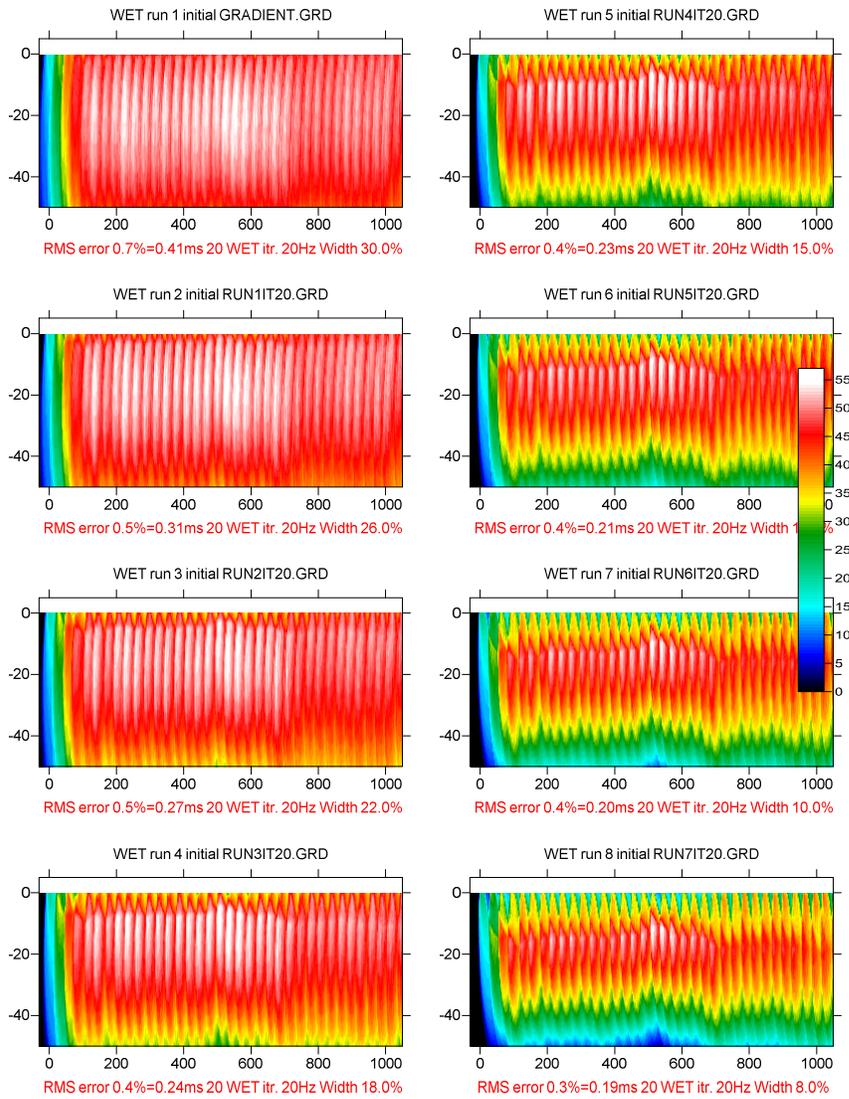
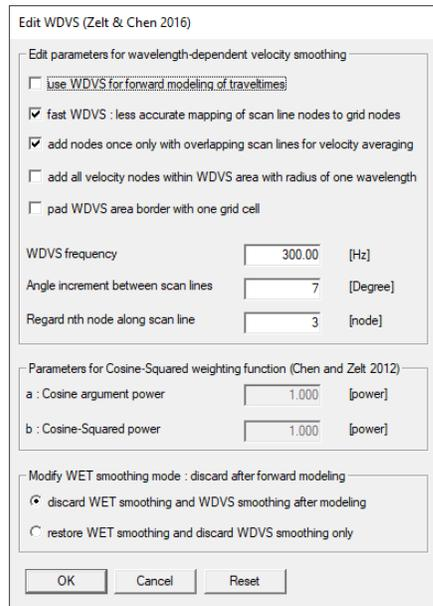

Fig. 2 : WET wavepath coverage plots obtained with Fig. 1. Unit is wavepaths per grid cell.
Fig. 14 (right) : *Model, Wdvs Smoothing*. Click radio button **discard WET smoothing and Wdvs smoothing after modeling** and click OK.
Fig. 1 : plot first 8 Steepest-Descent WET runs (20 WET iterations per run) for profile MARINE_L03 multiscale WET on one page with new Grid menu command **Plot multiple WET runs on one page** available with our 5.02 Pro version. The laterally averaged 1D-gradient starting model for first WET run is shown in Fig. 6. For interactive WET Tomography settings see Fig. 21. For multirun WET schedule see Fig. 22. For WDVS settings see Fig. 14.
As shown in Fig. 1 and in Fig. 2 our new Grid menu command **Plot multiple WET runs on one page** available with our 5.02 Pro version allows visualizing multiple runs in one Surfer plot. This multiscale plot enables easy comparison of multiple WET runs (here using 20 Steepest-Descent WET iterations per run) and allows to visually determine how well the multiscale WET inversion is working with your current WET and WDVS settings. Observe the monotonically decreasing RMS error shown in red in each plot's caption, with increasing run number as shown in each plot's title. See also our 2025 expanded abstract available at https://rayfract.com/pub/geoconvention2025_abstract.pdf and our other marine refraction profiles at https://rayfract.com/tutorials/SR6_multiplot.pdf and <https://rayfract.com/tutorials/SR6.pdf> and https://rayfract.com/tutorials/L-230_VS.pdf . See page 10 for step-by-step instructions with multirun WET settings shown in Fig. 21 and Fig. 22. For WDVS settings see Fig. 14.
Fig. 4 : 20 Steepest-Descent WET iterations using 1D-gradient starting model (Fig. 6). Discard WET smoothing (Fig. 14). Manual WET smoothing filter : half-width 15 columns, half-height 15 rows. Gaussian Smoothing filter weighting : **Used width of Gaussian** set to 1.5SD. **Grid cell size** forced to 0.5m in *Header, Profile* (Fig. 11). Starting model shown in Fig. 6. Fig. 10 shows misfit for one shot gather and for shot-sorted travelttime curves.
- leave *use WDVS for forward modeling of traveltimes* unchecked (Fig. 14)
Fig. 17 : Smooth invert|WET with 1D-gradient initial model. **Discard WET smoothing** in Model|WDVS Smoothing dialog (Fig 14). Default WET smoothing. **Grid cell size** forced to 0.5m in Header, Profile (Fig. 11). Starting model shown in Fig. 6.